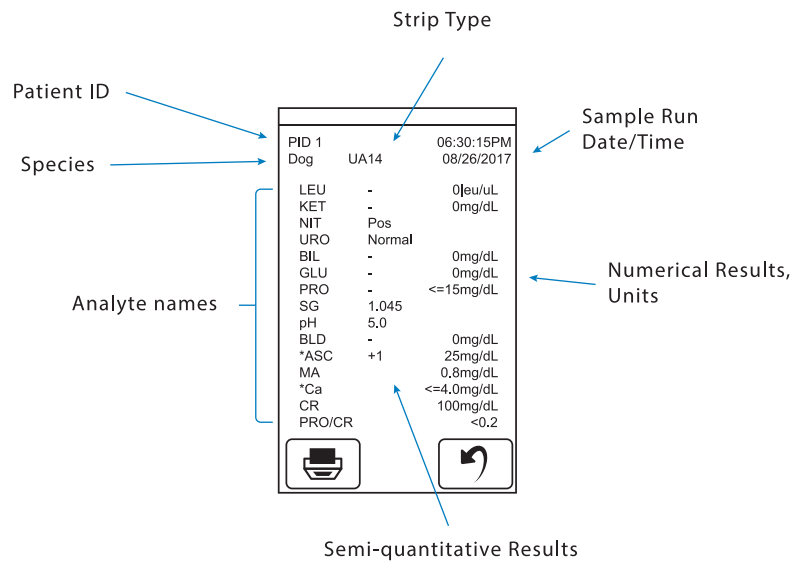

Fig. 15 UA Results screen.
9. Results will appear onscreen one minute after start of the test (Fig. 15). The UA analyzer will automatically print the results if Auto-Print is selected in the settings and the printer is connected and powered on. Results may be manually printed via the Printer button at the bottom left of the Results screen.